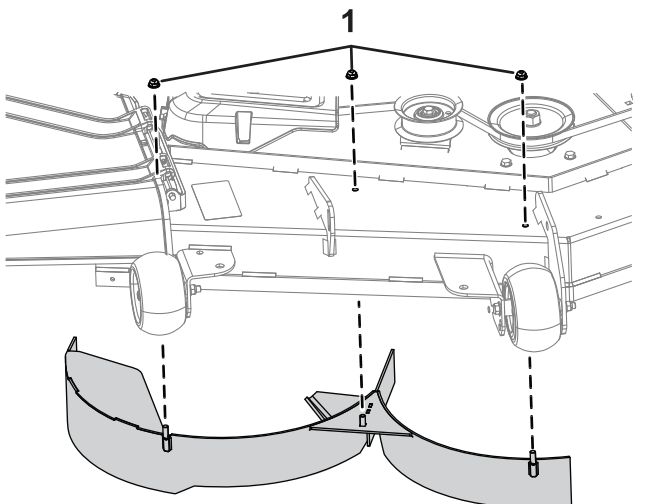

Figure 2
1. Install the right baffle using 3 nuts (5/16 inch) as shown in Figure 2. Tighten the fasteners by hand.